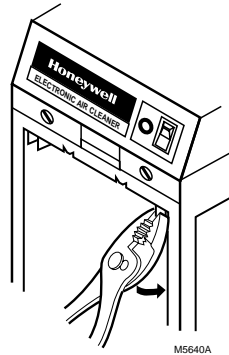

Fig. 6. Crimping the prefilter guide.
- Crimp the end of the downstream (closest to the furnace) prefilter guide to prevent incorrect prefilter installation following cleaning. See Fig. 6.